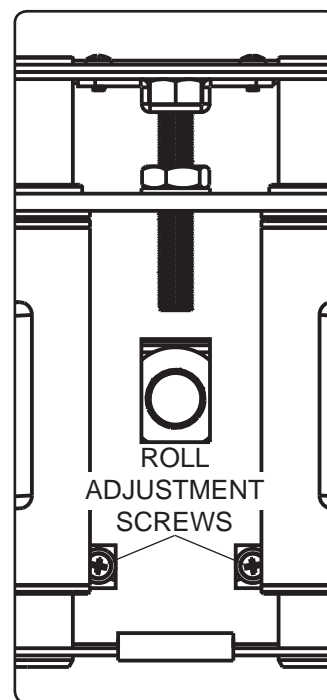

fig 9.1
- 9 Depending on the specific size & weight of the plasma, articulating swing arm may be angled at different positions, causing plasma to appear to lean sideways at different articulating positions. Tilt-roll assembly (B) allows plasma to be manually adjusted, so plasma can be horizontal at all positions. To adjust, gently rotate plasma by hand to desired position.
- 9-1 If it is too difficult to adjust roll of plasma, loosen screws shown in figure 9.1 using a phillips screwdriver.